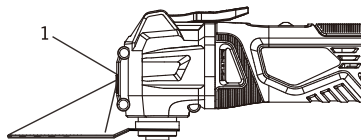

Fig. 3
This tool is equipped with an LED work light (Fig. 3). The work light (1) will automatically turn ON when the tool is turned on and will turn OFF when the tool is turned off.